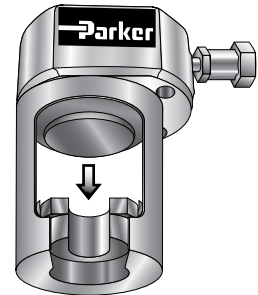

Figure 6
2. Insert "U-shaped" Nut die Adapter of the Hydraulic Ram as shown in Figure 6.